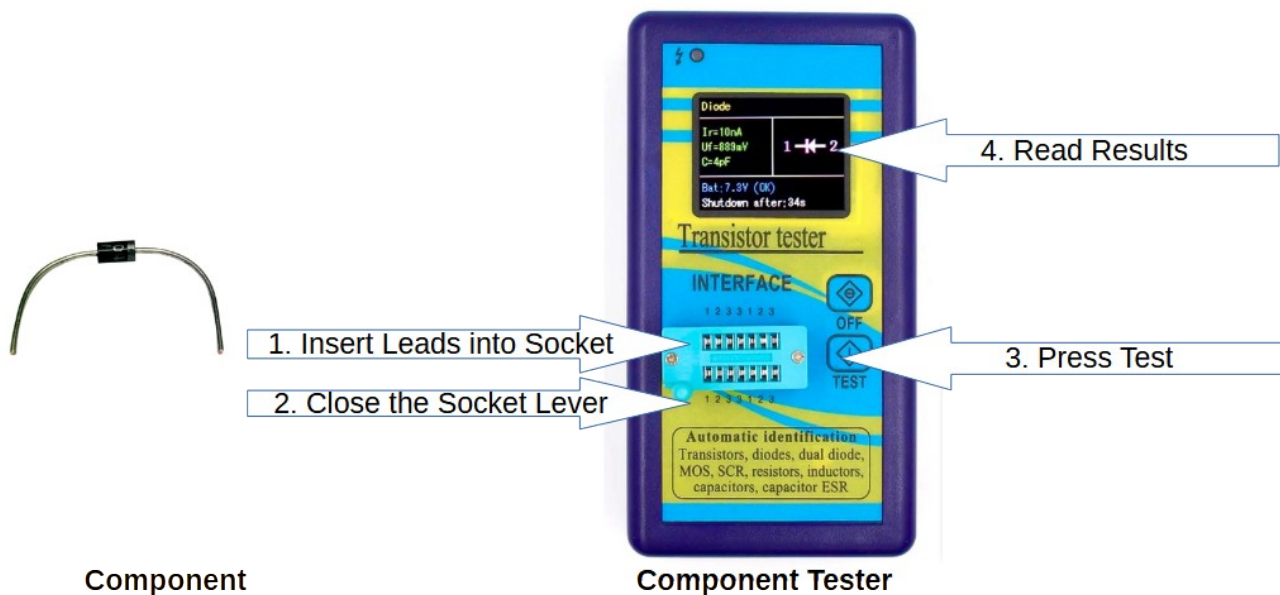

Figure 20: Using a Component Tester to test diodes
4. A Component Tester see Figure 20